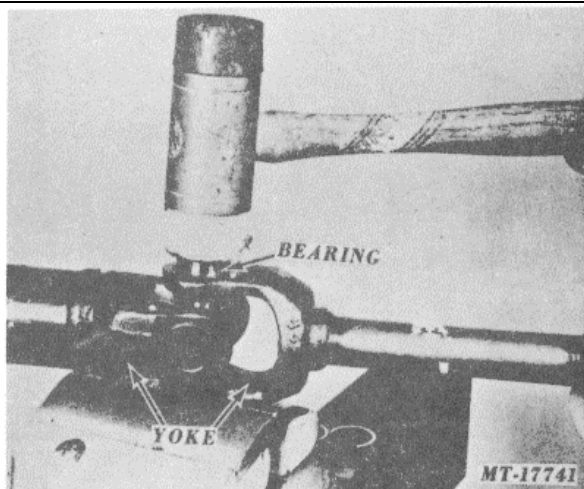

Fig. 11 Start Bearing by Tapping with a Soft Hammer
2. Rest yoke on hard surface. Tap one bearing part way into yoke with a soft hammer (see Fig. 11).